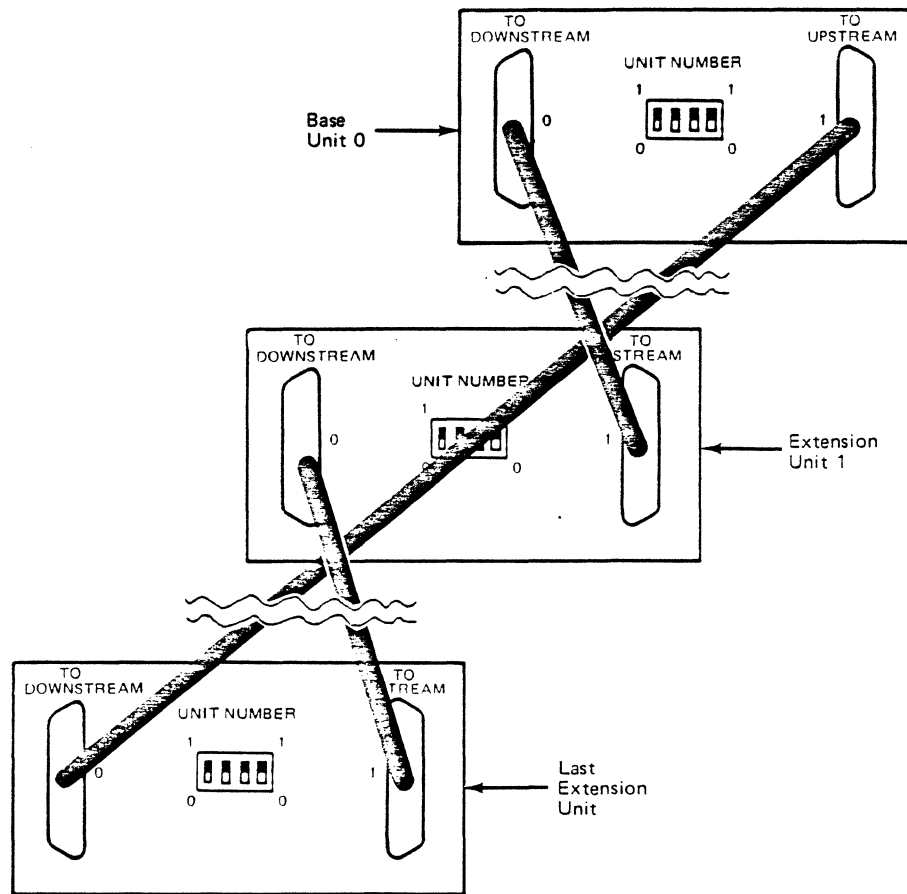

Figure 7-8. Extension Unit Control Cable Connections
7. Use the following procedure to connect the extension unit control (EUC) cables to the Extension Unit Control Panels as shown in Figure 7-8.